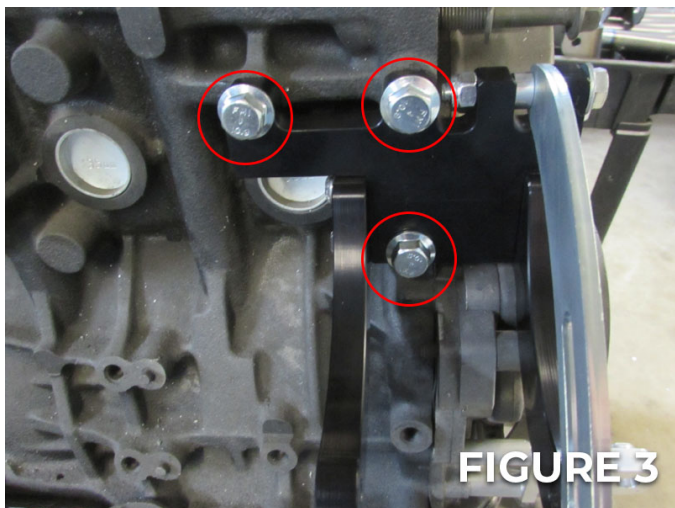

FIGURE 3
3. Install alternator bracket to engine. Using the OEM bolts, tighten the bracket to 32 ft/lbs using 14mm socket. (Fig 3)